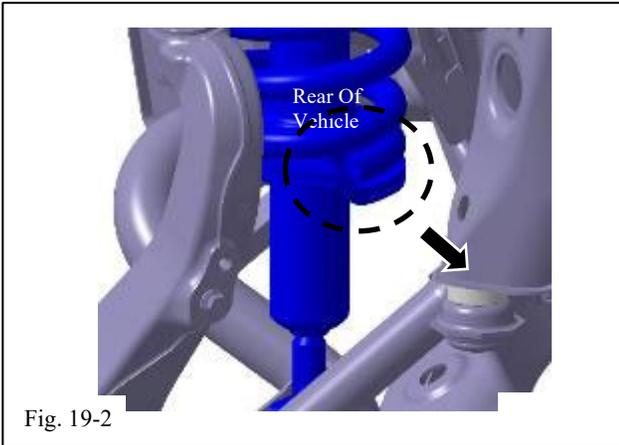

Fig. 19-2
- The circlip must fit completely in the groove and inside the spring seat (A). Improper installation will cause permanent damage to the Shock (Fig. 19-2).